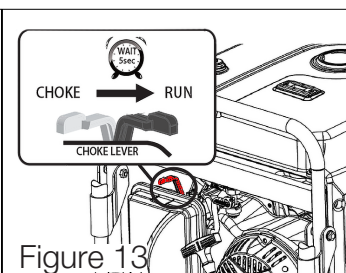

Figure 13
- Let engine run for several seconds and then gradually, as engine warms up, slide the choke lever towards the “RUN” position until the choke is fully slid to the “RUN” position. (See fig 13)
- Let engine run for several seconds and then gradually, as engine warms up, slide the choke lever towards the “RUN” position until the choke is fully at the “RUN” position. (See fig 13).